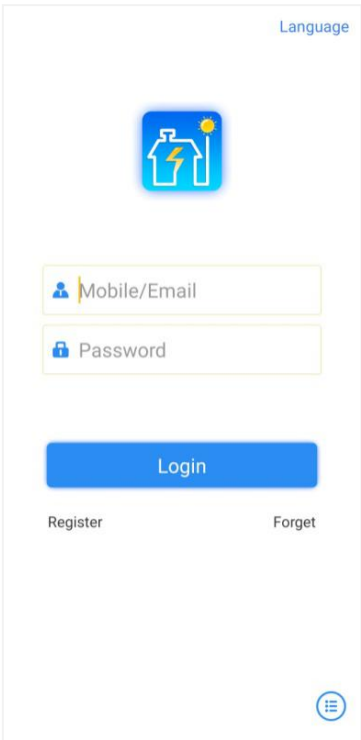

Figure3-30 Login page
Step 1 After registering, login according to the registered **mobile phone/Email** and **password**, as shown in Figure3-30.